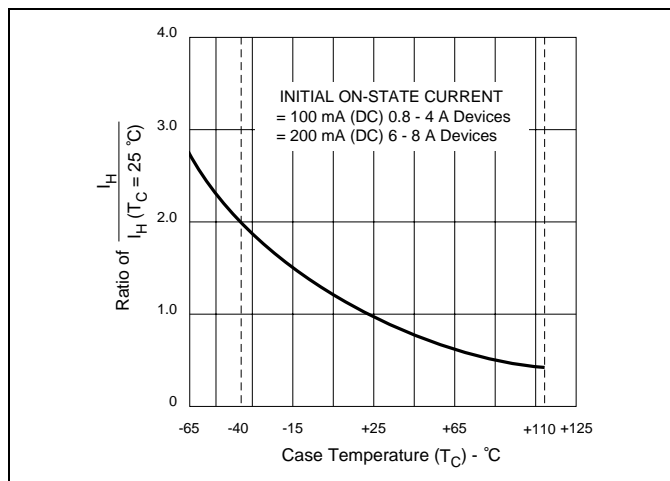

Figure E1.5 Normalized DC Holding Current versus Case Temperature
- (7) See Figure E1.5 for I_H versus T_C .